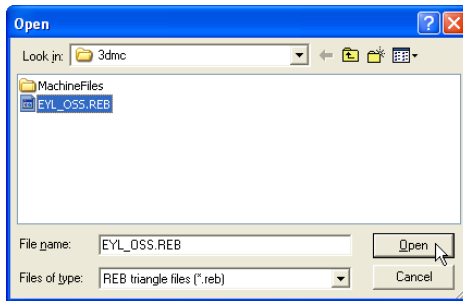

Figure 5-4. Open REB Triangle File
2. On the *Open* dialog box, navigate to the location of the desired file, select it, and click **Open** (Figure 5-4). The information from the selected file is added to the 3D Project file.